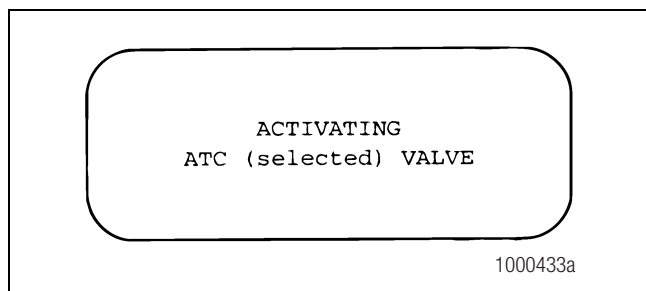

Figure 3.15
- Exercises the left and right rear ATC valves, one at a time. Figure 3.15.